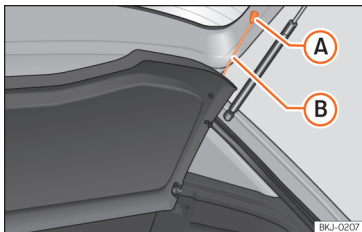

Fig. 139 In the boot: removing and installing the shelf.
- Detach the cord loops >>> **Fig. 139 (A)** from their hooks **(A)**.
- Attach the securing straps >>> **Fig. 139 (B)** onto the rear lid.